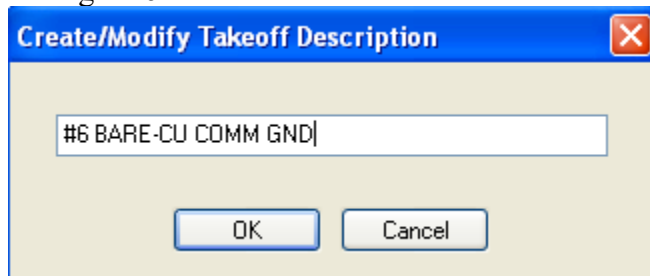

Figure 6
13. In the Create/Modify Takeoff Description window change the Takeoff Description as shown in Figure 6 and Click OK.